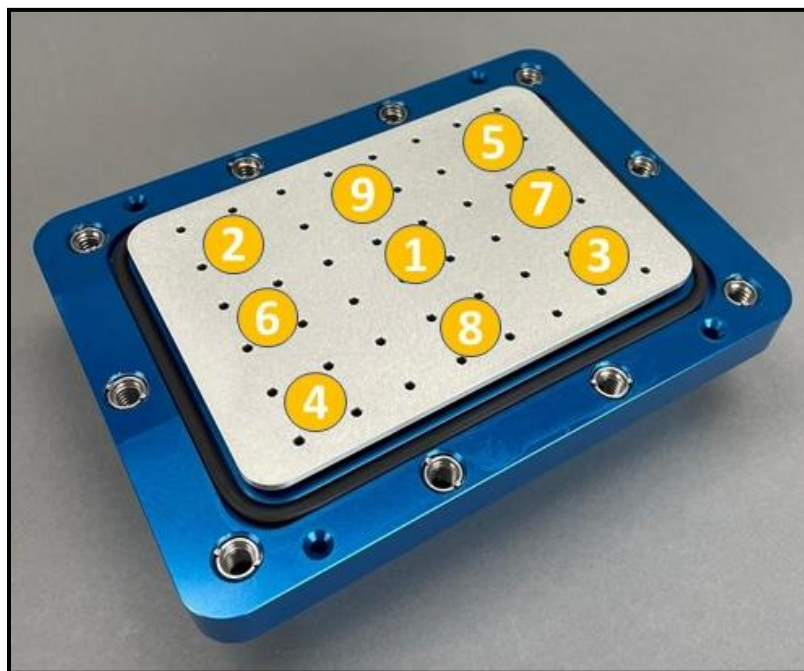

Figure 5. Suggested screw tightening order for Vapor Flow Restriction Plate
3. Align all holes and screw down to secure. Following the pattern shown in **Figure 5**, tighten each screw so that they are flush with vapor flow restriction plate (but not overly tight).